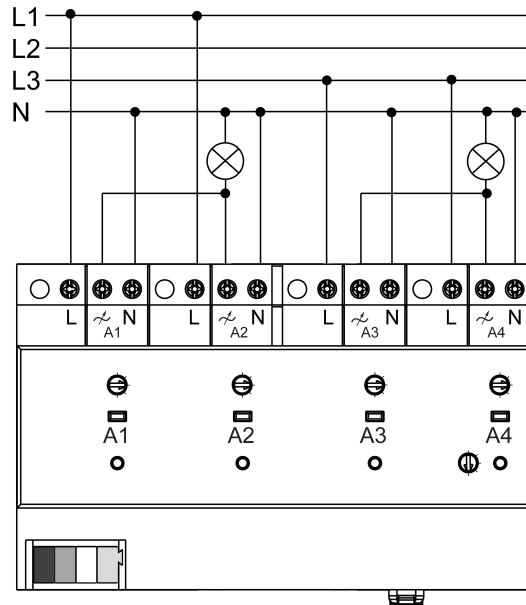

Figure 4: Connection example with two parallel outputs each
- Connect loads as shown in the wiring example (Figure 4).